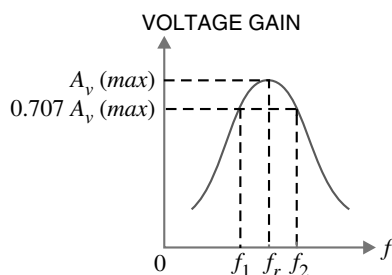

Fig. 13.9
The value of  $Z_C$  and hence gain strongly depends upon frequency in the tuned amplifier. As  $Z_C$  is maximum at resonant frequency, therefore, voltage gain will be maximum at this frequency. The value of  $Z_C$  and gain decrease as the frequency is varied above and below the resonant frequency. Fig. 13.9 shows the frequency response of a tuned amplifier. It is clear that voltage gain is maximum at resonant frequency and falls off as the frequency is varied in either direction from resonance.
**Bandwidth.** The range of frequencies at which the voltage gain of the tuned amplifier falls to 70.7% of the maximum gain is called its *bandwidth*. Referring to Fig. 13.9, the bandwidth of tuned amplifier is  $f_2 - f_1$ . The amplifier will amplify nicely any signal in this frequency range. The bandwidth of tuned amplifier depends upon
In practice, the ideal characteristics of the tuned amplifier cannot be achieved. In a practical frequency response (Refer back to Fig. 13.9), the gain falls gradually from maximum value as the frequency goes outside the  $f_1$  or  $f_2$  limits. However, the closer the frequency response of a tuned amplifier to that of the ideal, the better.